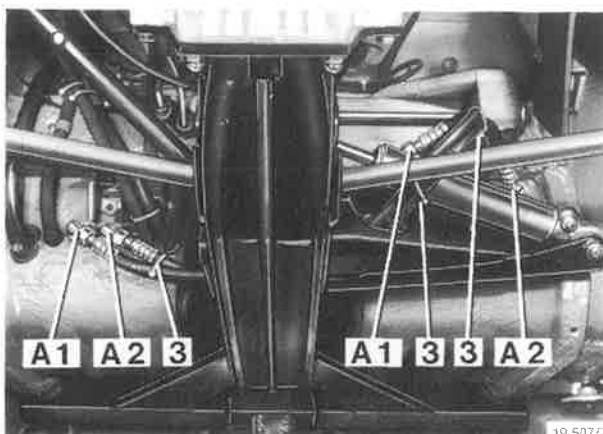

Fig. 9
- 10 Remove provisional fasteners and screw on pressure hoses and swivelling screw fittings (8) to hydraulic cylinder observing markings made during dismantling and tighten to 100 Nm.
- 12 Check laying and correctness of connected pressure hoses acc. to fig. 9. Replace missing cable clips (9/3).